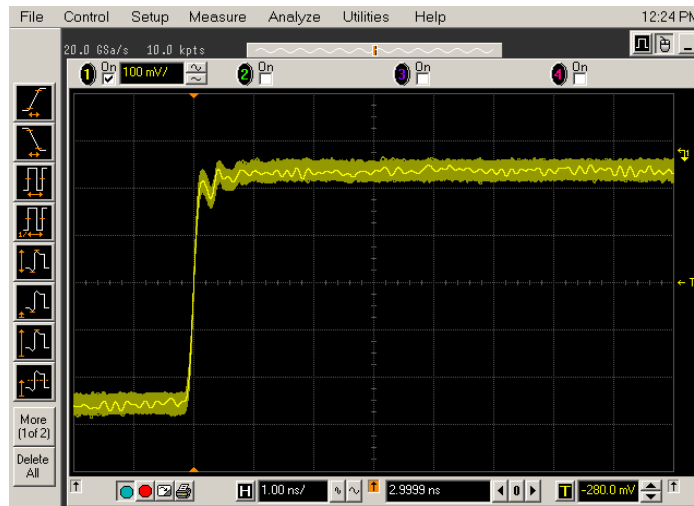

Figure 43 Good Connection
- 4 Set the horizontal position to approximately 3 ns. You should see a waveform similar to that in **Figure 43** on page 70.